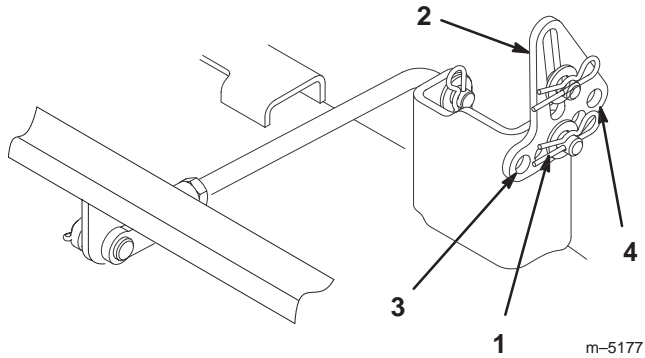

Figure 35
5. Remove the hairpin cotter and washer from the leveling bracket (Fig. 35). To level the blade(s), reposition the leveling bracket(s) in a different hole and install the washer and hairpin cotter (Fig. 35). A front hole lowers the blade height and a rear hole raises its height. Adjust both sides as required.